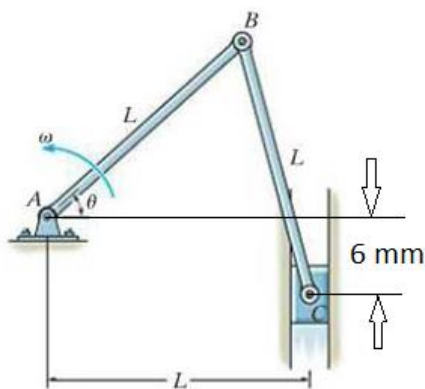

Figure 2.2
- 2B. What do you understand by radial acceleration and tangential acceleration of a link in a planar mechanism? **(Mathematical formulation is required)** (3)
- 2C. In the figure 2.2 given below, bar AB rotates with constant angular velocity 10 rad/s about A. Calculate velocity and acceleration of slider C and link BC by graphical method when $\theta = 53$ degrees and length $L = 50$ mm. The vertical distance between A and C is 6 mm. (5)